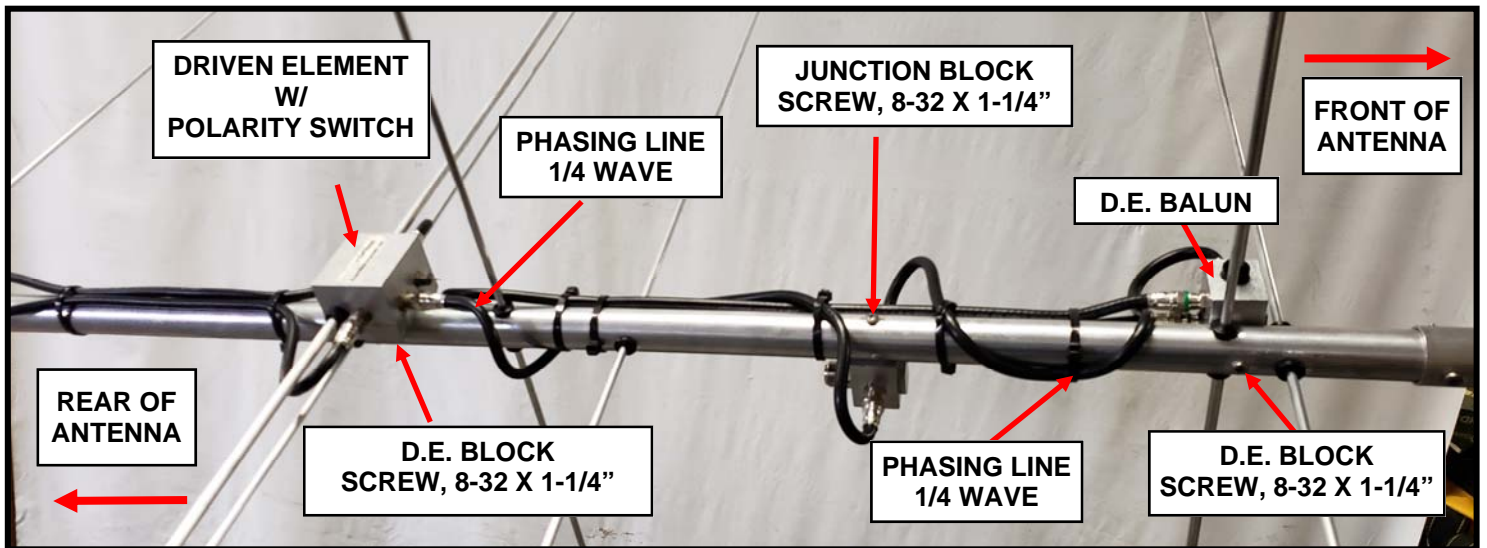

FIG 4.
17. If you have purchased PS149CP22 polarity switch use the dimension sheet and the picture in FIG 4. for driven element, balun and phase line orientation. RHCP is shown in both the dimension sheet and in FIG 4. when the polarity switch is un-energized.